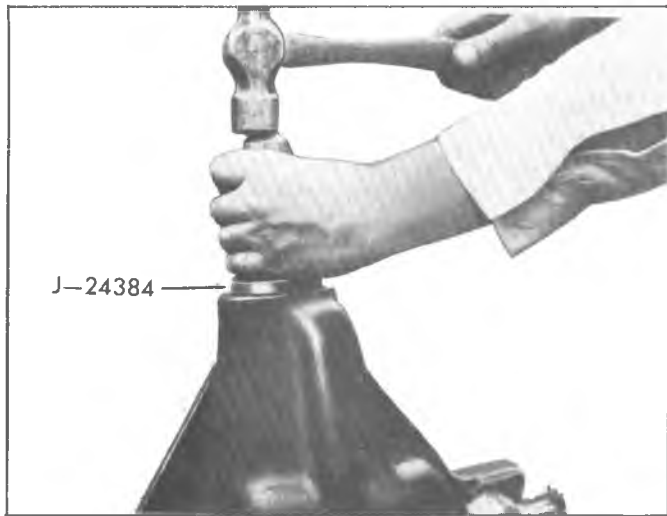

Fig. 11F—Installing Pinion Oil Seal
14. Install new pinion oil seal into housing as shown in figure 11F, using J-24384.